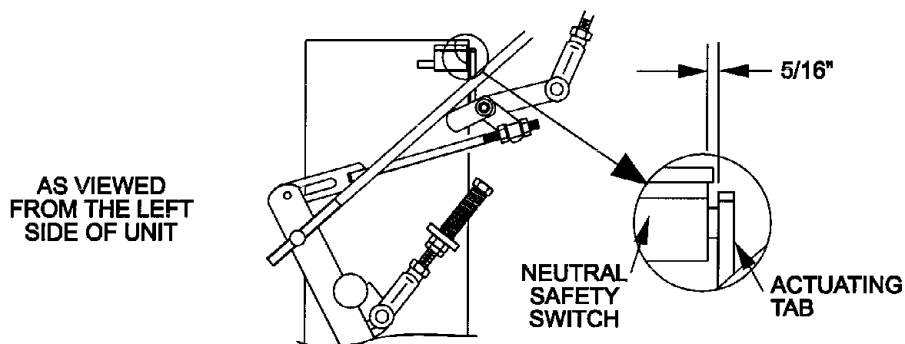

FIG. 14
2. Pull the speed control lever back to neutral. Check that the neutral safety switch actuating tab has depressed the plunger of the switch so that there is about $5/16$ " between the tab and the switch. See fig. 14. If necessary, move the switch fore and aft.